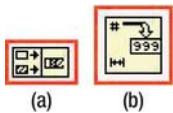

Figure 10-12. (a) The Concatenate String Function, and (b) the Number to Decimal String Function
- **Concatenate String**—This function is used to combine two or more strings (see Figure 10-12(a)).
- *Number to Decimal String*—This function converts a numerical value to a string value (see Figure 10-12(b)).